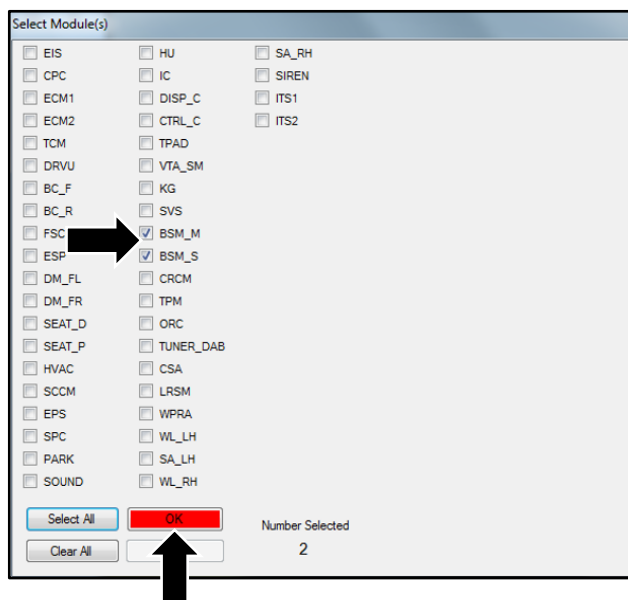

Figure 2
- Select the "BSM\_M" and "BSM\_S" modules then click the "OK" button (refer to Figure 2).